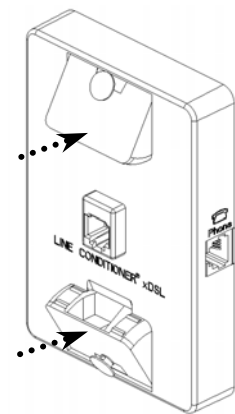

Fig 2
4. Press the toggles back into position to lock on the studs of the wall jack, as shown in figure 2.